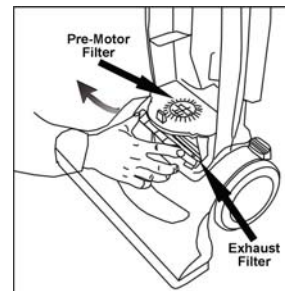

Fig. 16
1. Remove the front cover from the vacuum cleaner. (Fig. 16)